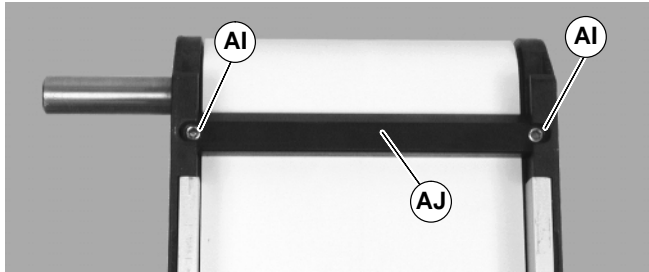

Figure 17
1. If equipped, remove bottom wipers (AJ of Figure 17): Remove fastening screws (AI) then remove wiper (AJ).
3. If equipped, remove bottom wipers (AJ of Figure 17): Remove fastening screws (AI) then remove wiper (AJ).